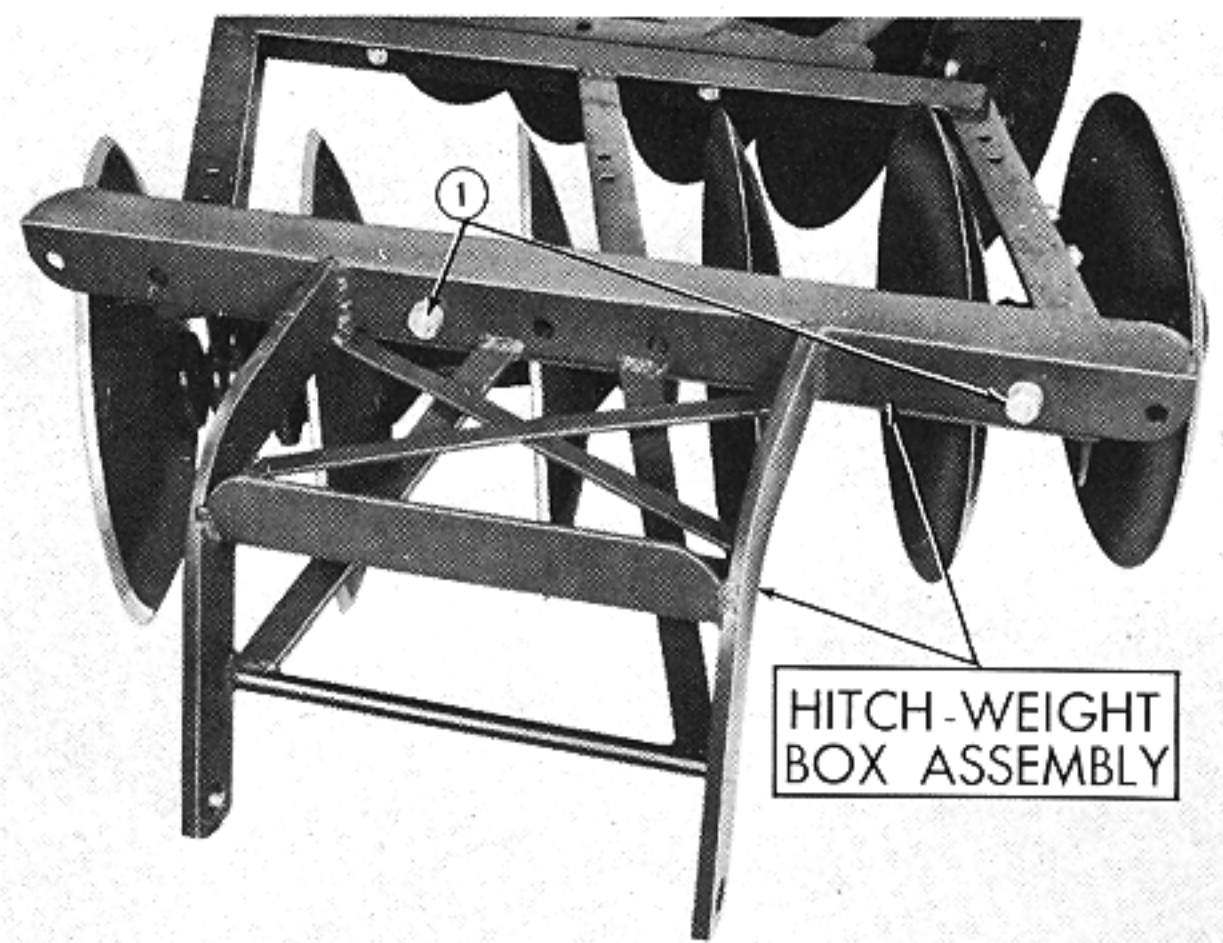

Figure 7
- Center the hitch-weight box assembly on the front frame and bolt it to frame with the two bolts (1) (provided in front frame) as shown in Figure 7.
- When the harrow is mounted to the tractor, remove the two bolts (1), Figure 7, that hold the hitch weight box assembly to the front frame.